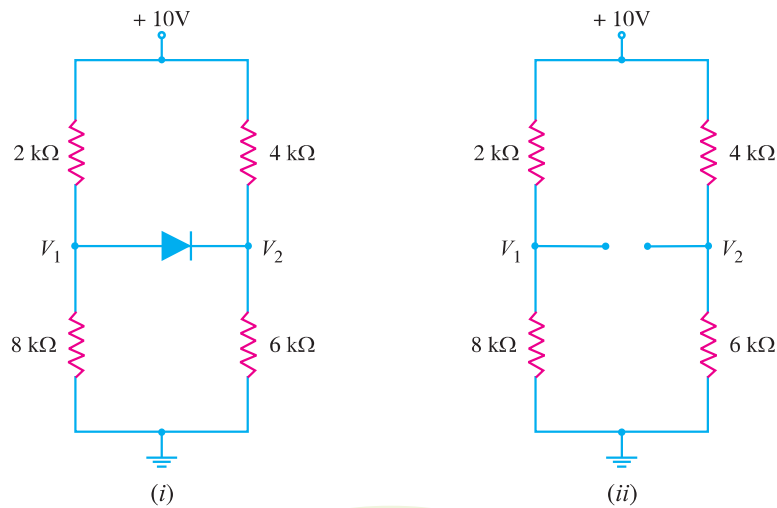

Fig. 6.17
**Example 6.10.** Determine if the diode (ideal) in Fig. 6.17 (i) is forward biased or reverse biased.
**Solution.** Let us assume that diode in Fig. 6.17 (i) is *OFF* i.e. it is reverse biased. The circuit then becomes as shown in Fig. 6.17 (ii). Referring to Fig. 6.17 (ii), we have,